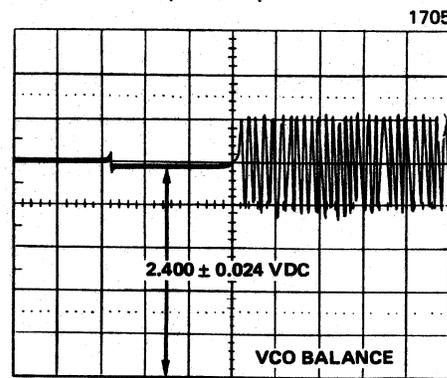

Figure 3-26. VCO Balance
- e. Adjust potentiometer R11 until voltage during phase lock portion of gap is  $2.400 \pm 0.024$  Volts DC as shown in Figure 3-26.